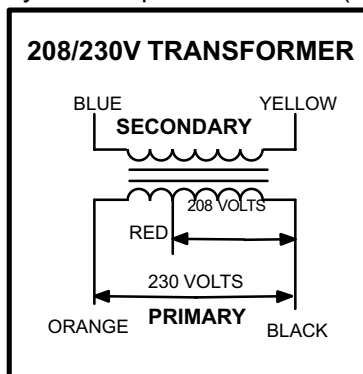

FIGURE 4
age transformers use two primary voltage taps as shown in figure 4, while 460 (G) and 575 (J) voltage transformers use a single primary voltage tap. Units will be factory wired for 230V (orange and black). 208V (red and black) applications should be re-wired in the field.
All LCA series units with 45 - 120 kW electric heat use a single line voltage to 24VAC transformer mounted in the electric heat control hat section in the control box. The transformer supplies power to all electric heat controls (contactors and coils). The transformer is rated at 70VA and is protected by a 3.5 amp circuit breaker CB13. The 208/230 (Y) voltage transformers use two primary voltage taps as shown in figure 4. Transformer T2 is identical to T1.